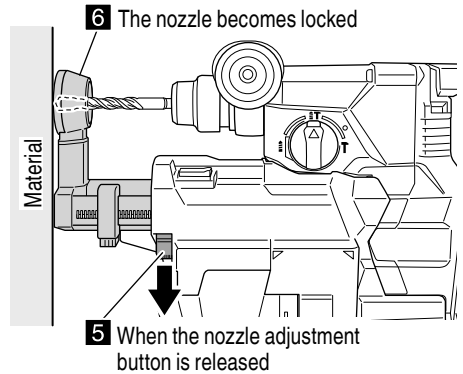

Fig. 7
- (4) Release the nozzle adjustment button to lock the position of the nozzle. (Fig. 7)